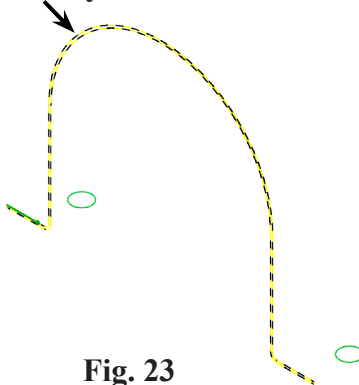

Fig. 23
Step 6. Click **any motor mount geometry**, not the circles, **Fig. 23**.